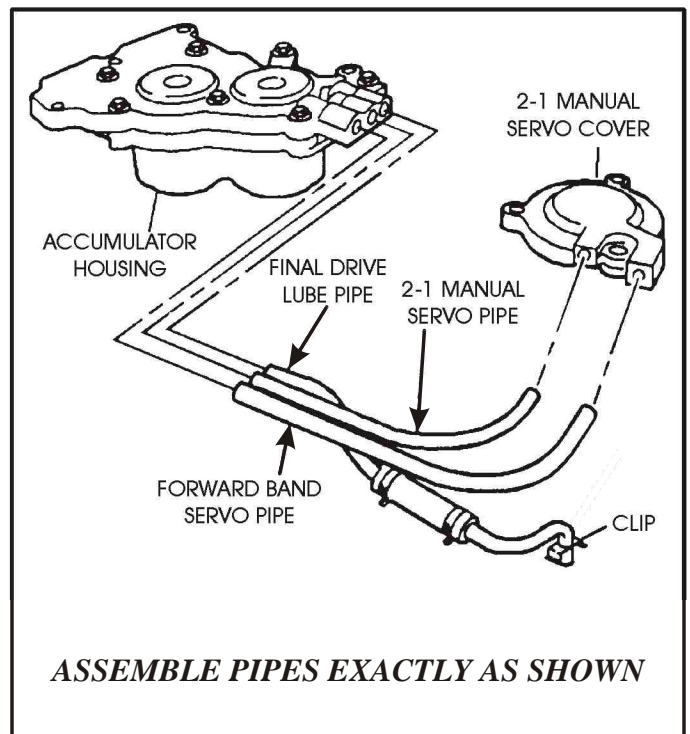

Figure 129
10. Install the final drive lube pipe assembly and the servo apply pipes into the accumulator and 2-1 manual servo cover, shown in Figure 129.